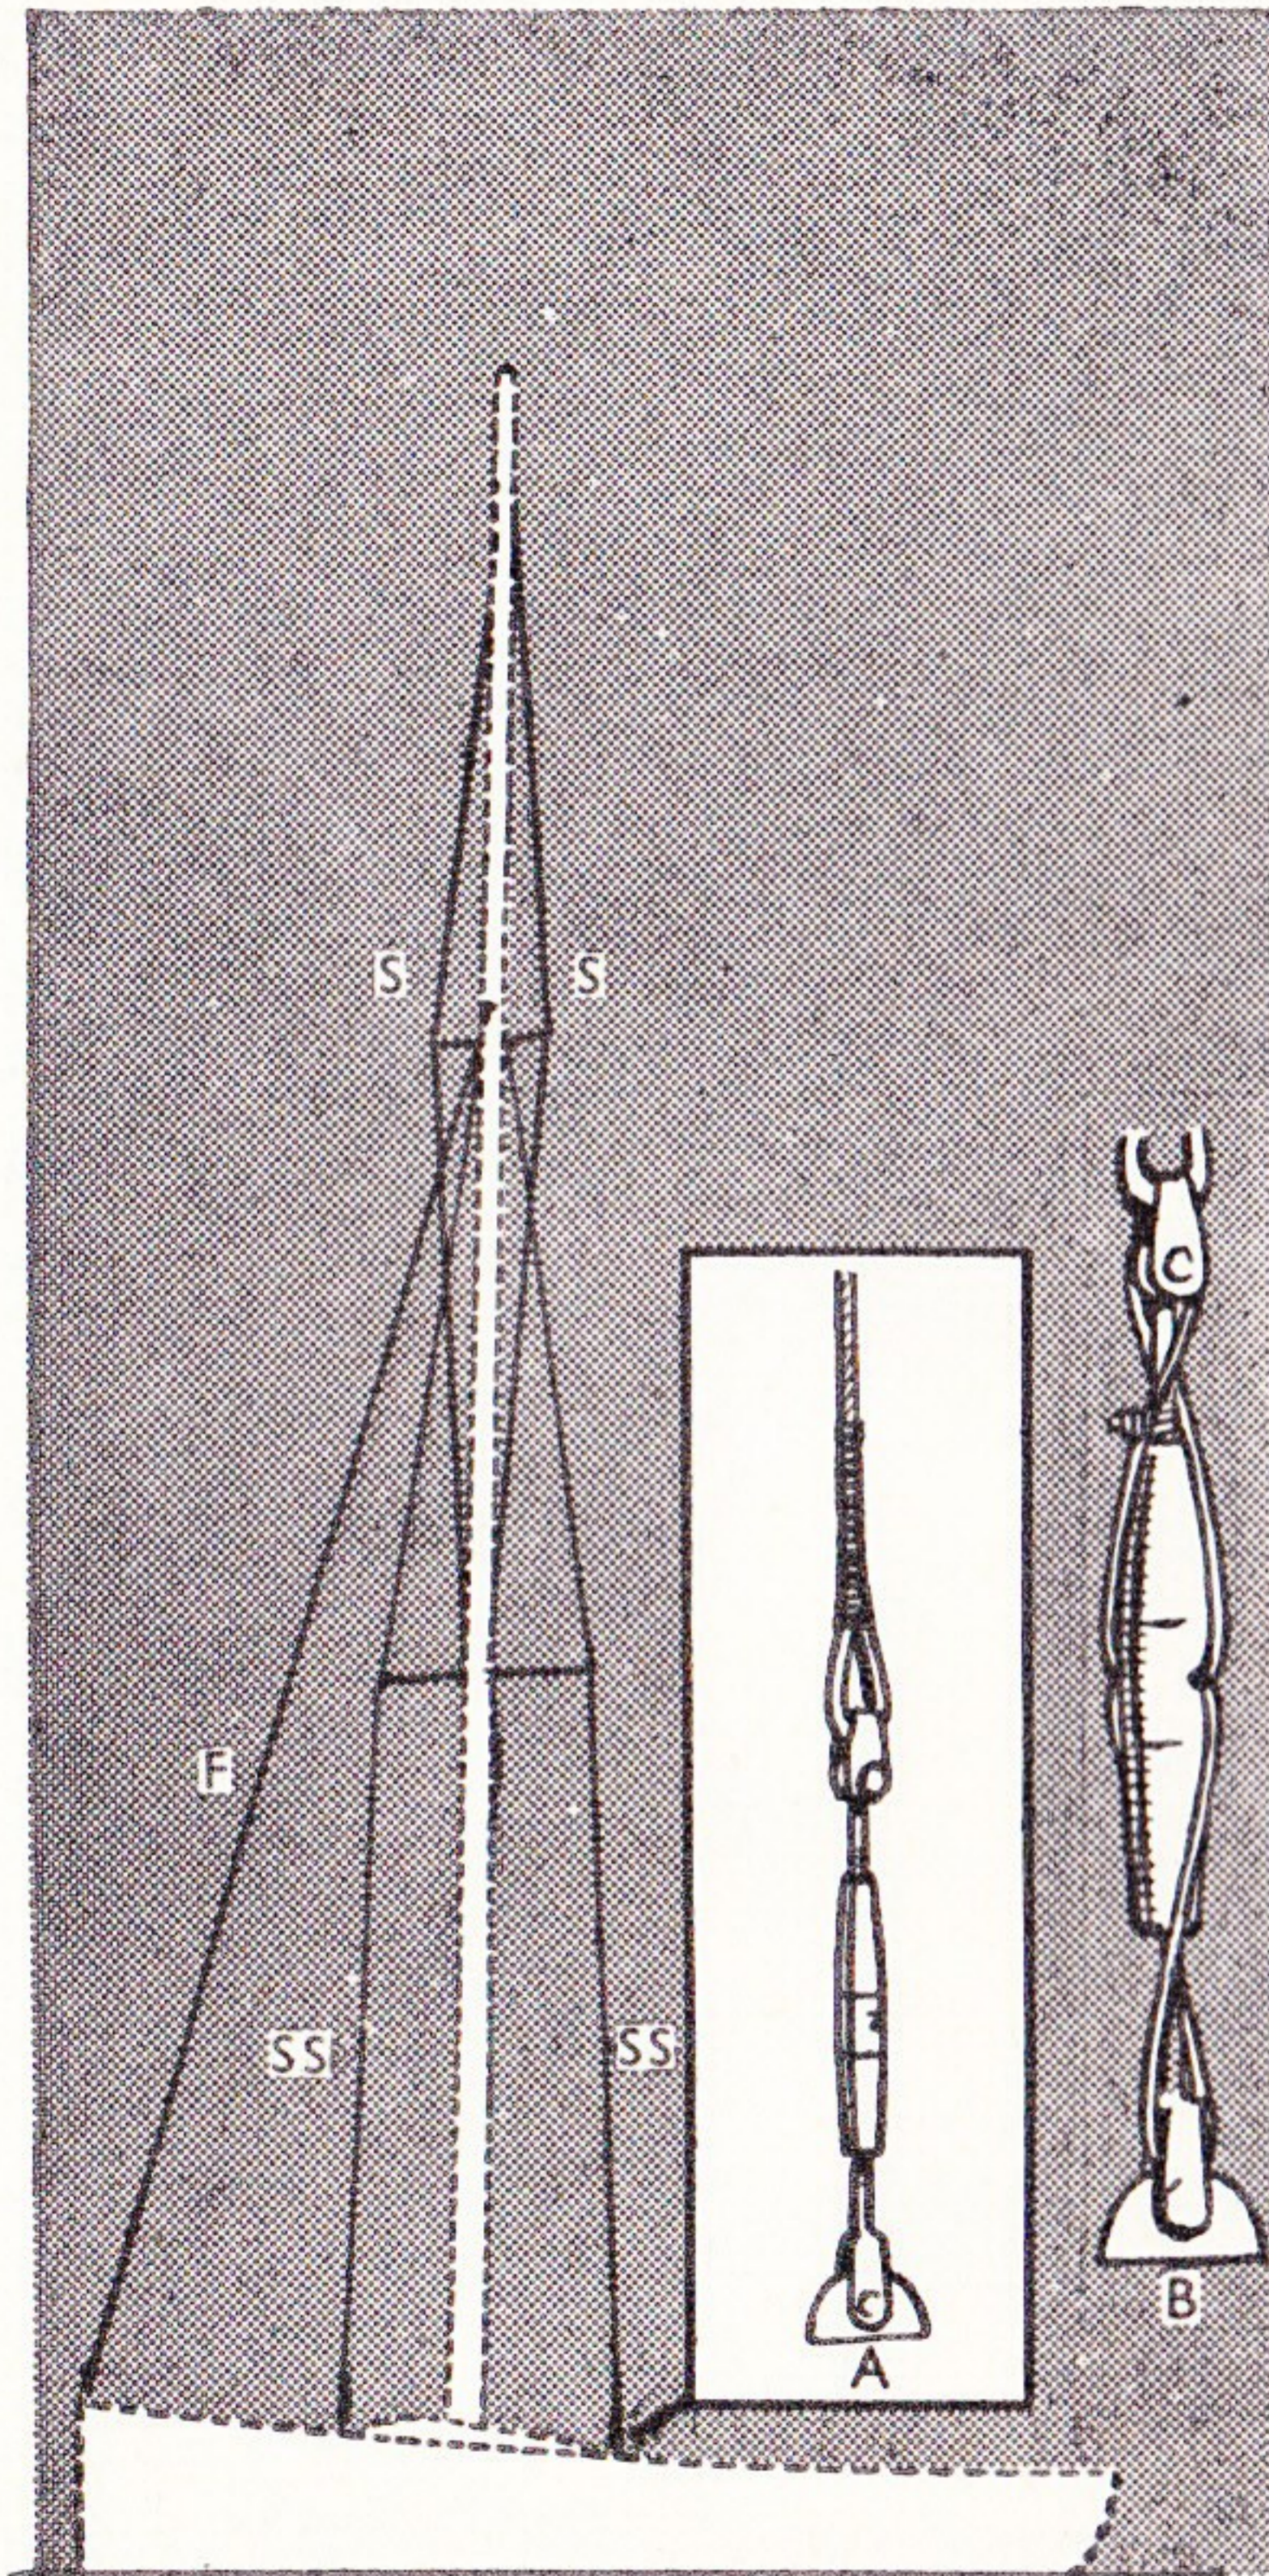

Fig. 15. Standing rigging
*Standing Rigging* (Fig. 15). Supports the mast, is always of wire and consists of:—